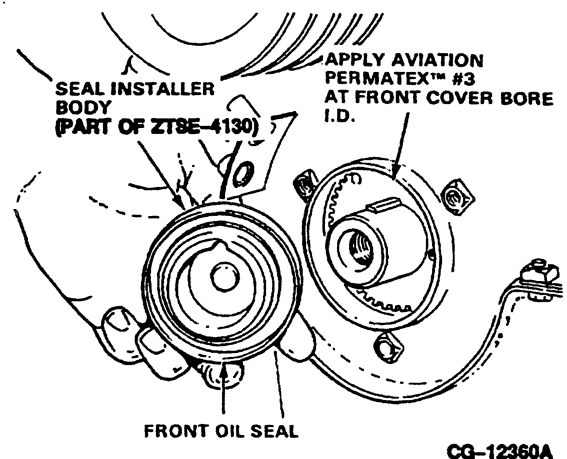

Figure 6.13. Oil Seal in Body of ZTSE-4130
- Position a new front oil seal onto the front crankcase seal installer body of ZTSE-4130, Figure 6.13.